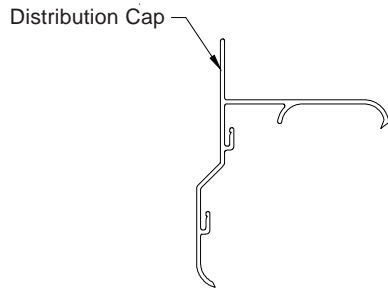
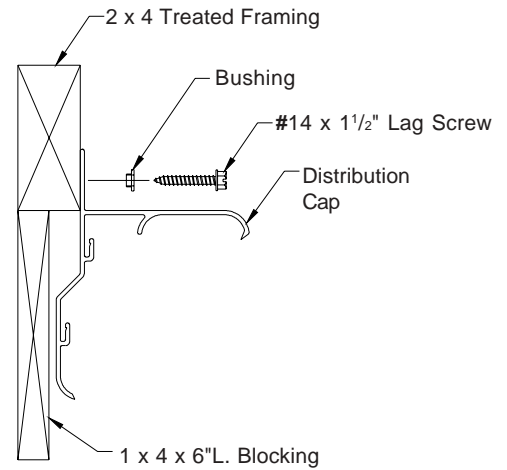

Figure 13A
Figure 13B
- 16) Attach distribution cap to left end of framed opening using #14 x 1 1/2" Lag screws and bushings. **DO NOT** tighten Lag screw against distribution cap. Distribution cap should be able to slide back and forth along slot to allow for contraction and expansion. Be sure to hold distribution cap tight against framing and that the Lag screws go in square so as not to tip cap upward. **See Figures 13B and 13C.** Repeat Step 16, leaving a 1/4" gap between sections, until you have installed all distribution caps. **See Figure 13A.**